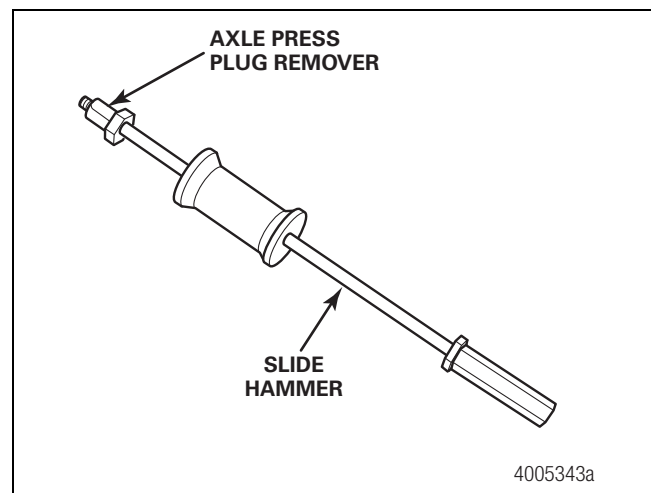

Figure 3.27
- J. Use a slide hammer fitted with the axle press plug removal tool to remove the leaking axle press plug. Use care not to score the inside diameter of the spindle bore. Figure 3.27.